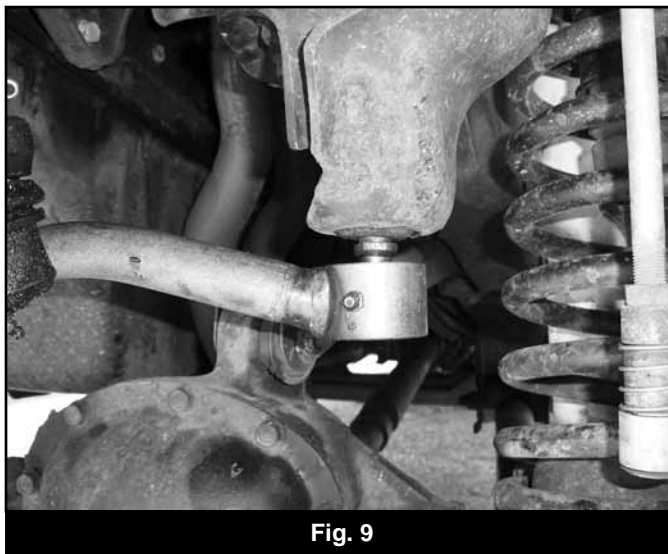

Fig. 9
32. Grease and install the provided bushings (M03406RB) and sleeve (55003) into the preassembled adjustable track bar end (A153B). Install the provided straight grease fitting (516) into the ball stud end of the track bar.
*Note: There will be a small gap between the flats on the stud and the OE mount when properly installed (Fig 9).*